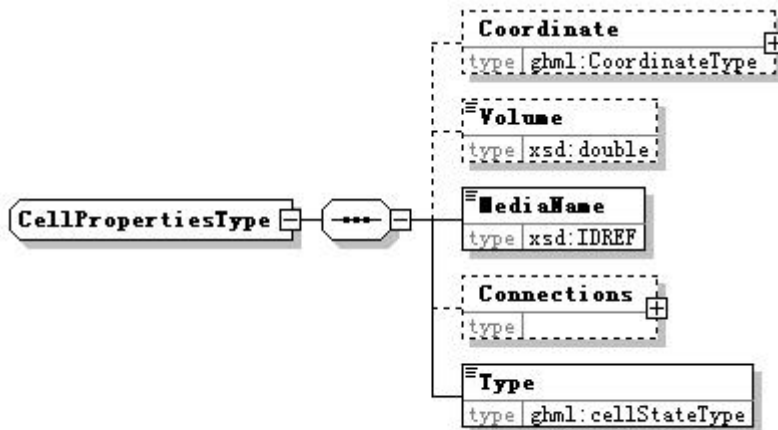

Figure 11. CellPropertiesType
- **CellProperties[CellPropertiesType]** - Geometer properties of the cell (Figure 11).